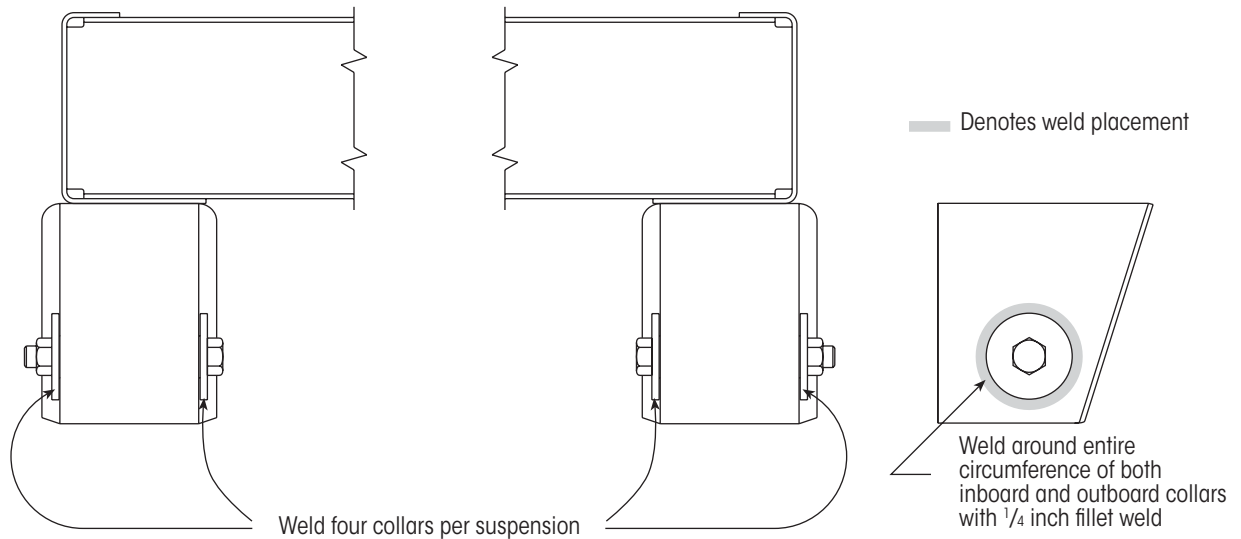

Figure 27: Welding locations on welded collars
7. **Weld** around the inboard and outboard collars on each end of the axle with a 1/4 inch fillet weld (Figure 27).